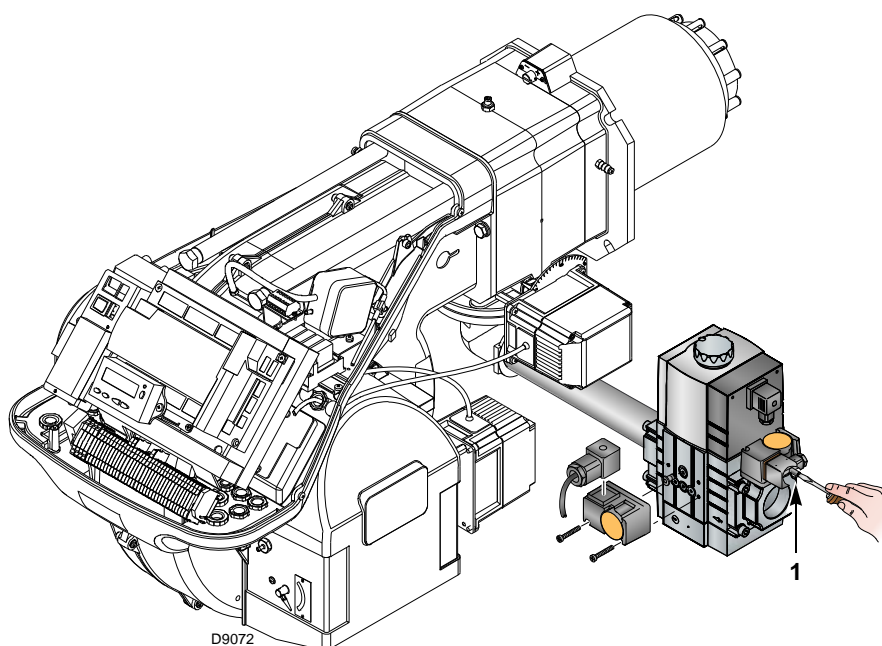

Fig. 29
- Check the gas supply pressure by connecting a pressure gauge to the pressure test point 1 (Fig. 29) of the minimum gas pressure switch: it must be lower than the maximum allowed pressure of the gas train, as shown on the characteristics label.